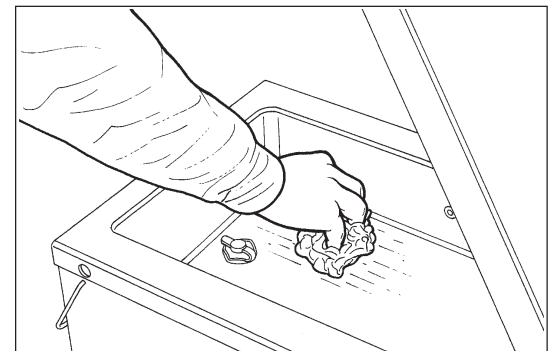

Fig. 5
- 6) Using a cloth soaked in a detergent and/or disinfectant solution, clean the bottom and sides of the vacuum chamber (Fig. 5); after cleaning, refit the parts by repeating the above operations in reverse order.